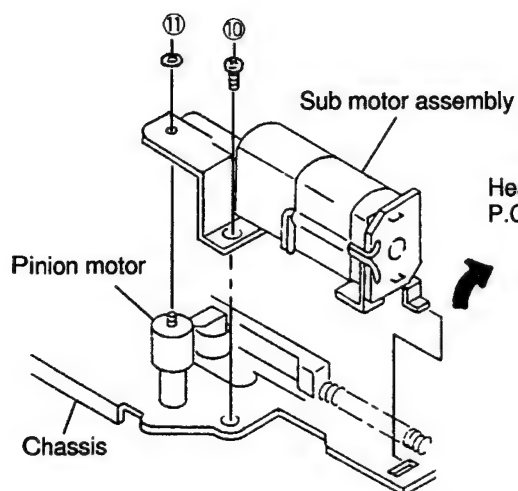

Figure 9
- ③ ルーズ半田、ショート等のないこと。
- (1) Remove M1.2 lock washer ⑪ and one screw ⑩ as shown in Figure 9.
- (2) Remove the sub motor assembly by pulling it up in the direction of the arrow as shown in Figure 9.
- (3) Mount it, following the removal steps in the reverse order.
② Take care to avoid damage by piercing and tearing.
③ Fasten the one screw with a fastening torque of 6kg.cm.
- (1) ロックワッシャー⑪ (M1.2) と1本のネジ⑩を外します。(図9参照)
- (2) 図中の矢印の方向へ持ち上げながらサブモーター組立を外します。(図9参照)
- (3) 取り外し方の逆の手順で取り付けます。